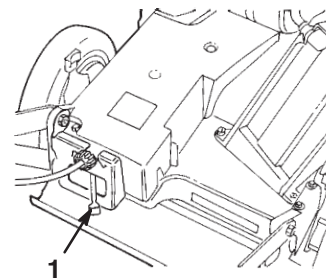

Figure 12
4. Move the ground speed control to the (Neutral) position (Fig. 12).
The lawn mower has 3 ground speeds. **1** is slow, **2** is medium, and **3** is fast. The ground speed control is located at the rear of the belt cover (Fig. 12).